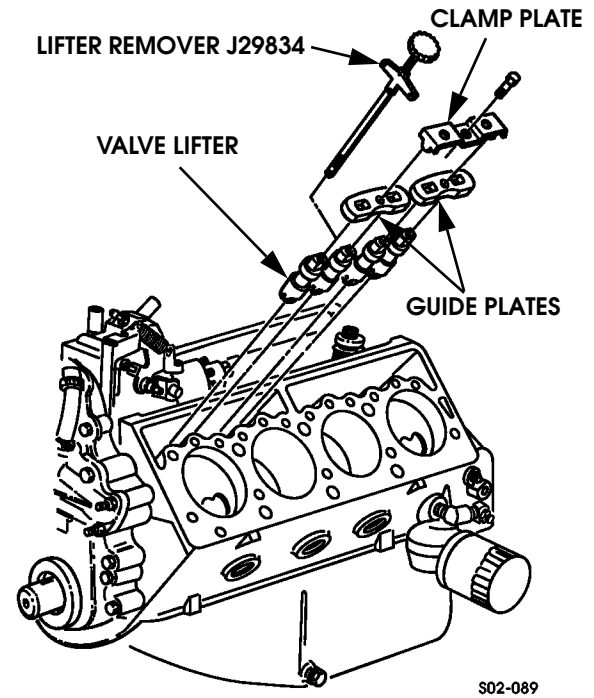

Figure 2-104: Valve Lifters
1. Remove lifter clamp plates from cylinder block (Figure 2-104).
3. Remove lifters from block with tool J29834 (Figure 2-104).